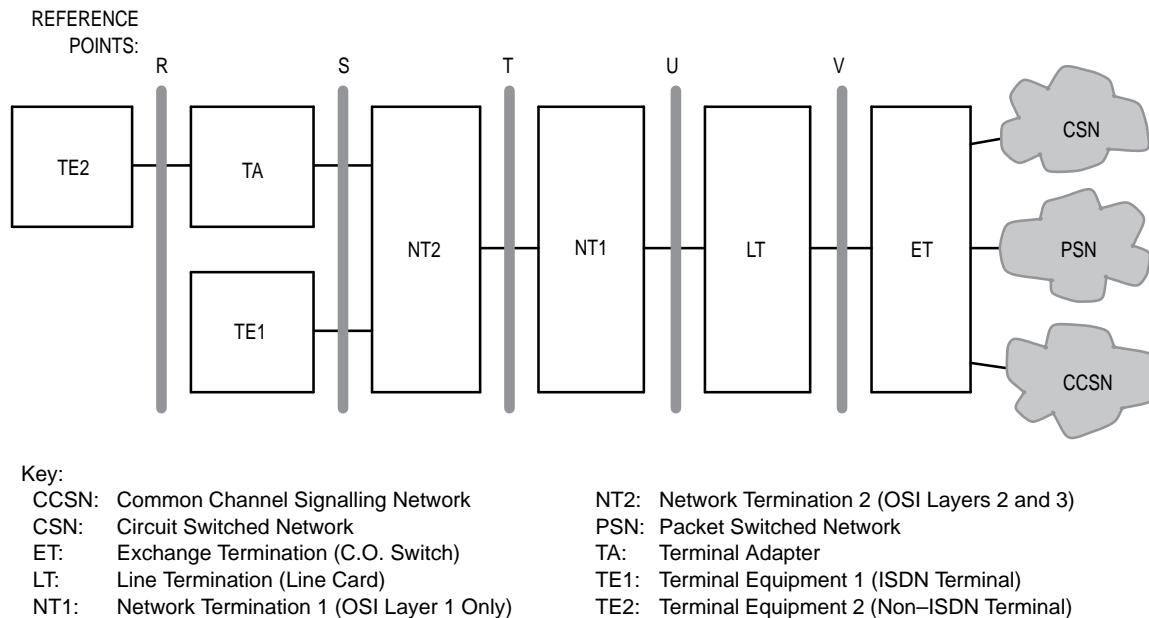

Figure 1. ISDN Reference Model
The Integrated Services Digital Network (ISDN) Reference Model is shown in Figure 1. This is a general model that can be adapted to many different implementations of the ISDN. The diagram indicates the position of the U-Reference Point between the Line Termination (LT) and the Network Termination 1 (NT1) blocks in the model.